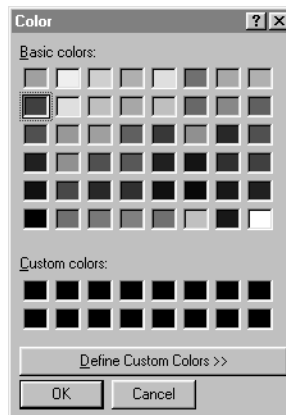

Figure 3.2. Using the Colors dialog box, you can assign different colors to layers, or create new colors to assign.
- 2 Select a new color from the dialog box pictured in Figure 3.2, then choose OK.